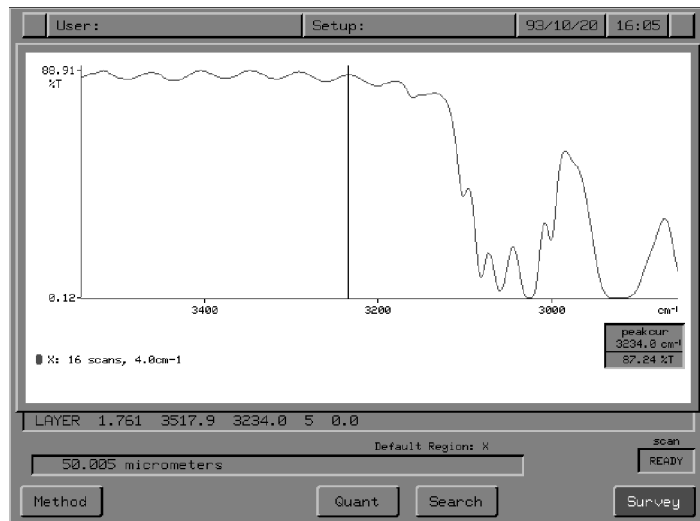

Figure 3-58 Result of Calculating the Thickness of a Layer
*The calculator computes the thickness or the refractive index of the layer, places it in **V0**, and reports it on the Command line as shown in Figures 3-58 and 3-59.*